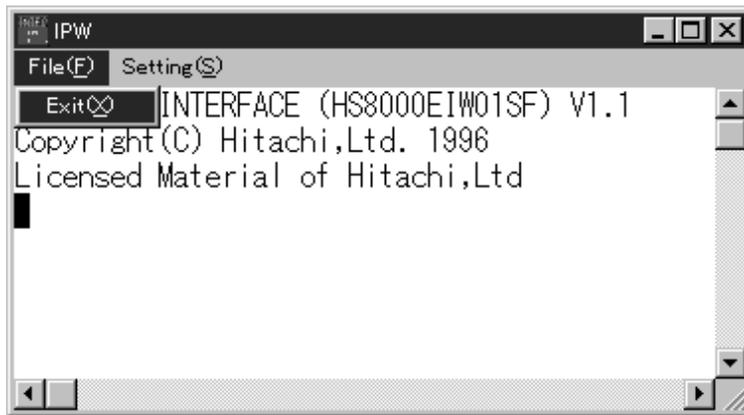

Figure 3.24 Exit Menu
3. Clicking Exit in the File menu terminates interface software IPW. Interface software IPW can also be terminated by pressing (Alt) + F keys and then the X key (figure 3.24). Note that in the following conditions a termination request is ignored and interface software IPW will not be terminated.